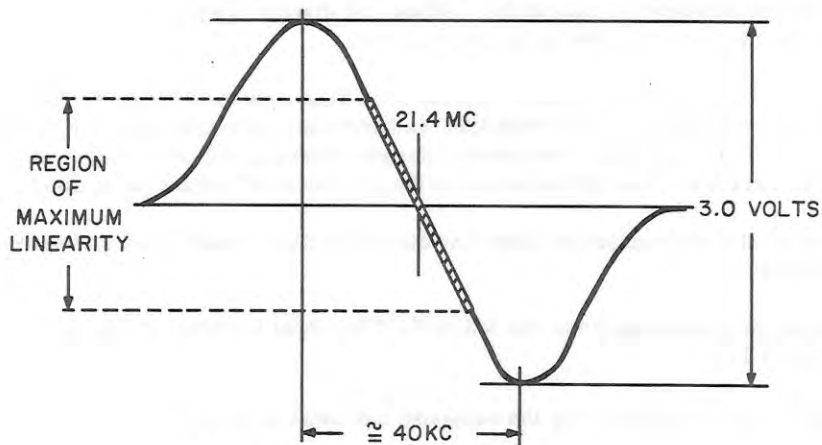

Figure 5-3. IF-220-20 FM Response
- g. Adjust L8, L9, and L10 for the response indicated in Figure 5-3.